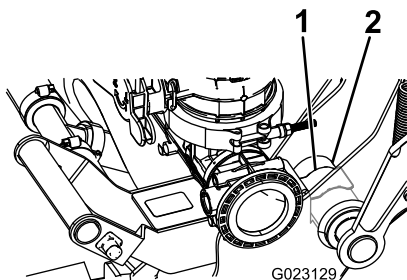

Figure 15
- D. Push until the clamp snaps over the pivot housing as shown in Figure 15.